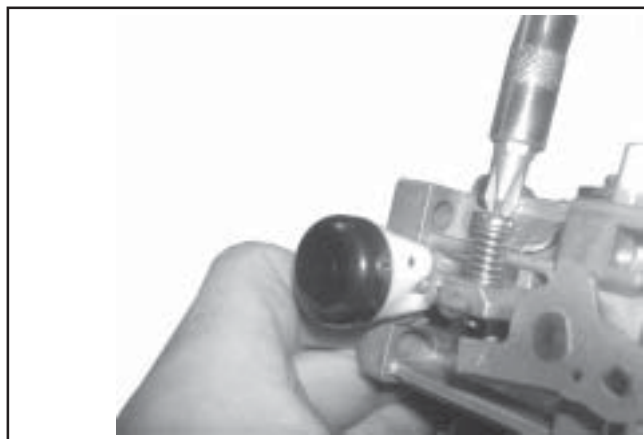

Figure 5-55. Installing Idle Speed Adjusting Screw and Spring.
11. Install the new idle speed (RPM) adjustment screw and spring onto the carburetor. Thread in until **3 or 4 threads** are exposed, as an initial adjustment. See Figure 5-55.